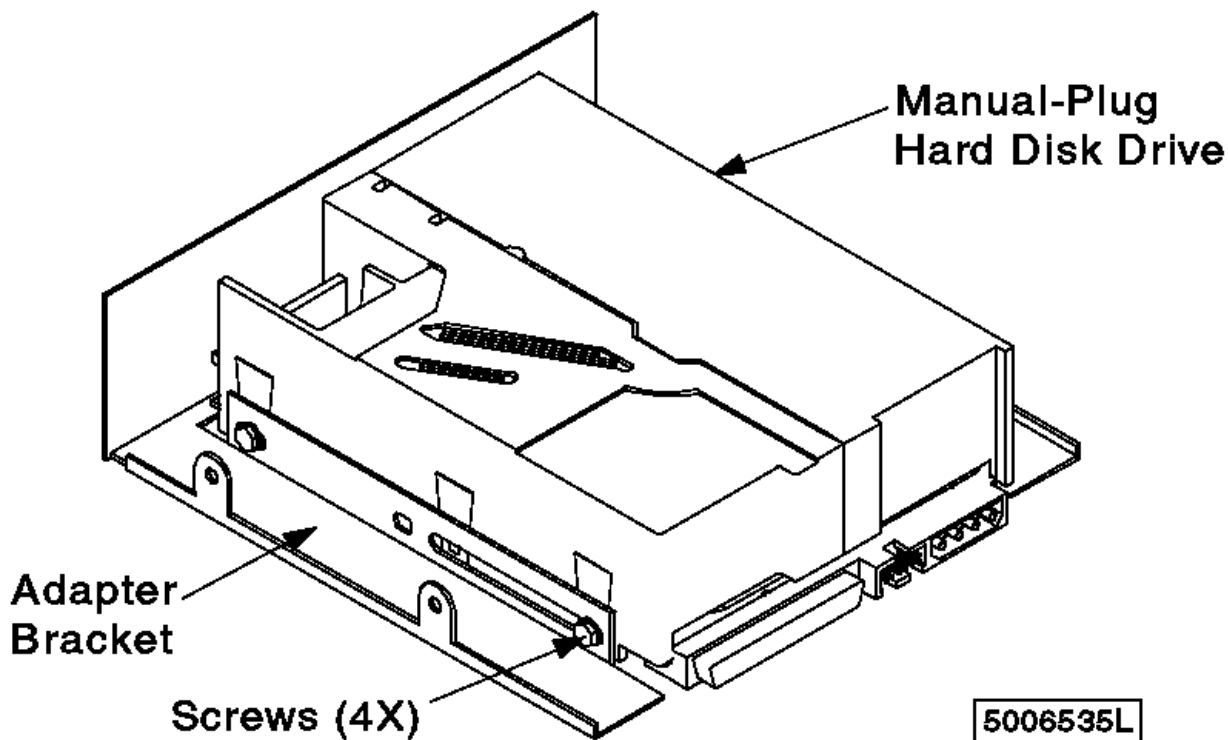

Figure 5-21. Hard Disk Drive Adapter Bracket
- a. Install and tighten the 4 screws on the sides of the adapter bracket to mount the hard disk drive (Figure 5-21).